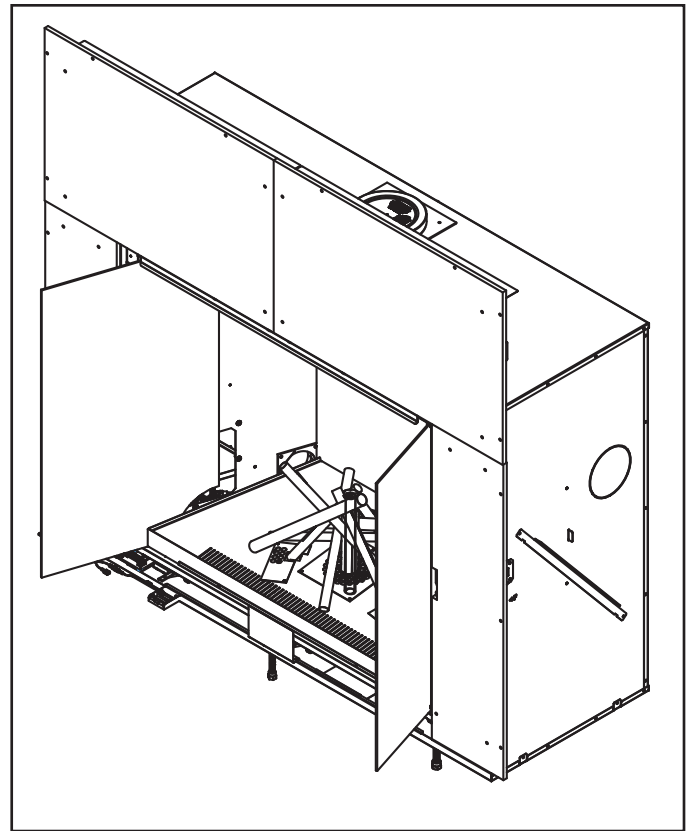

Figure 14.11 Side Panel Installation
4. Slide left glass assembly into left side of appliance. Attach glass retainer with fasteners saved in Step 1. Do not overtighten. See Figure 14.11.